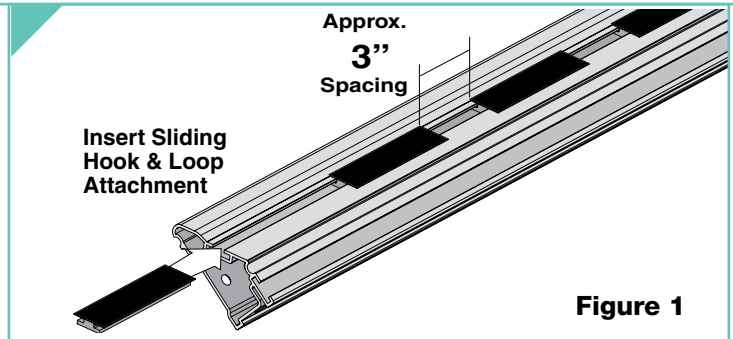

Figure 1
1. Insert sliding Hook & Loop attachments into all four (4) sections of the frame (See Fig. 1).